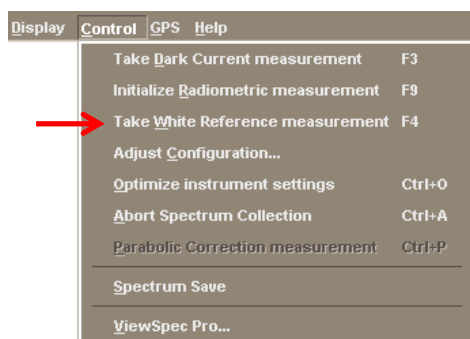

Figure 3-19: Pull down menu white reference
- Or use the keyboard command [Alt+C, W], or F4 hotkey. Or select "Take White Reference measurement" from the *Control* pull-down menu (Figure 3-19).